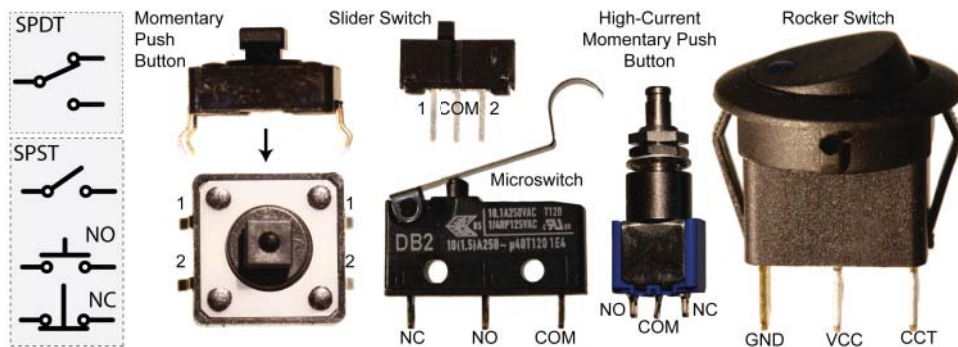

Figure 4-20: Various switches and configurations
Other components with which you are likely to need to work with are switches and buttons. They come in many different forms: toggle, push button, selector, proximity, joystick, reed, pressure, temperature, etc. However, they all work under the same binary principles of either interrupting the flow of current (open) or enabling the flow of current (closed). Figure 4-20 illustrates several different common switch types and outlines their general connectivity.
Momentary push button switches (SPST—single pole, single throw) like the one illustrated in Figure 4-20 are either normally open (NO) or normally closed (NC). NO means that you have to activate the switch to allow current to flow, whereas NC means that when you activate the button, current does not flow. For the particular push button illustrated, both pins 1 and both pins 2 are always connected, and for the duration of time you press the button, all four pins are connected together. Looking at slider switches (SPDT—single pole, double throw), the common connection (COM) is connected to either 1 or 2 depending on the slider position. In the case of microswitches and the high-current push button, the COM pin is connected to NC if the switch is pressed, and is connected to NO if the switch is depressed. Finally, the rocker switch illustrated often has an LED that lights when the switch is closed, connecting the power (VCC) leg to the circuit (CCT) leg.